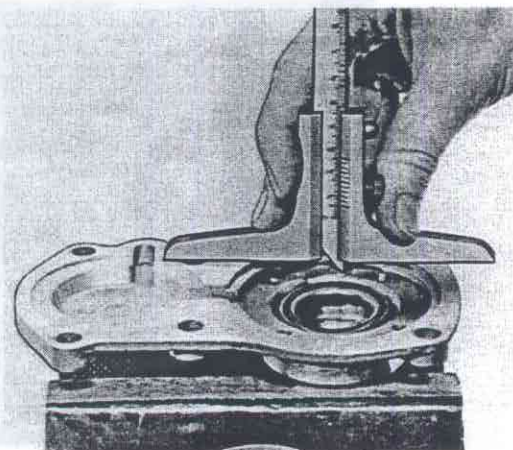

Fig. 43-125. Calculating clearance
30. Measure the distance from the contact face on the cover to the recesses for the outer races for the bearings, Fig. 43-125. The difference between the measurements obtained may be ± 0.05 mm (0.002") for the input shaft and from 0 to +0.1 mm (0.0039") on the countershaft.